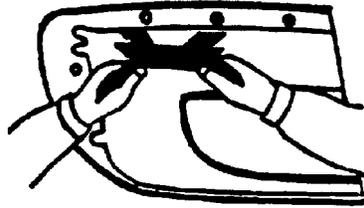

FIGURE 3—APPLICATION OF FIBERGLASS CLOTH TO BACKSIDE OF COVER
**4.3 Structural Reinforcement**—If structural reinforcement is required, the use of fiberglass cloth saturated with 2-part (2K) repair adhesive applied to the backside of the repair is recommended. Clean the backside of the plastic component using soap and water and a plastic cleaner. Next grind 2 in beyond the back edge of the damaged area with a grade 36 disc. Apply 2-part (2K) adhesive to a piece of fiberglass cloth and apply it to the backside of the repair. Apply additional coats of the 2-part (2K) repair adhesive to the glass cloth and surrounding surface and allow to cure. (Figure 3)